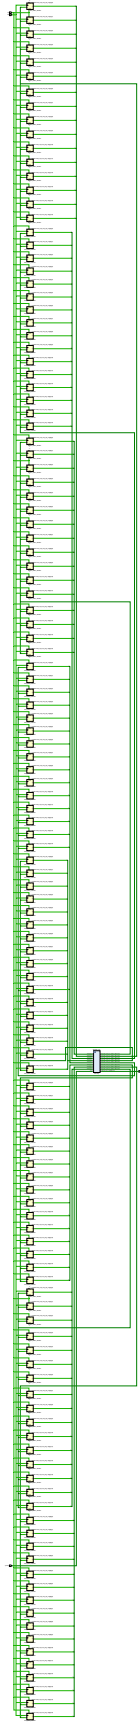

Figure 5: RTL Schematic of Equation (3) using a Mealy Machine Showing Registers
When the equation (3) is implemented using a mealy machine, we can take advantage of the added memory in order to reduce the area cost of the circuit. Namely, in theory we implement the calculation by only one Digital Signal Processing (DSP) operation at a time. DSP operations are multiplication or addition, since they are necessarily different DSP blocks, they can be scheduled in the same clock cycle (as they don't share resources). Each clock cycle an intermediate result is computed and stored in the accumulator register, until the final value is outputted. The resulting implementation now has a very small combinational path: of either the multiplication block or adder block (whichever has the longest latency; probably the multiplier). The design pays for its increase in area efficiency by computation time, as the final result takes 8 clock cycles to compute. However, since the critical path is reduced, this design allows for a higher maximum clock speed compared to the longer combinational path in the trivial implementation. The RTL schematic is too big too show, so was moved to be seen in the appendix in figures 5 and 6. The Flow summary however can be seen below in figure 4, as well as a zoom of the important parts of the design 3. As can be seen in the flow summary, and less well so in the design figure there is only 1 DSP block, which is most probably as the implemented design uses a single ALU able to compute multiplications as well as additions.